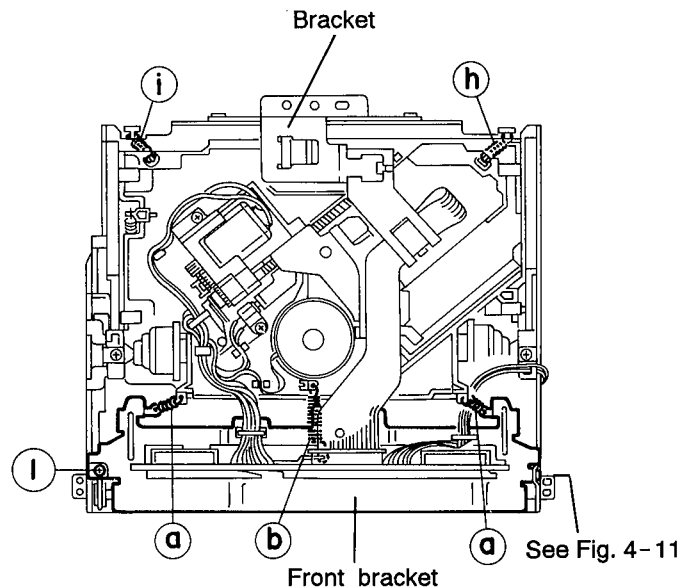
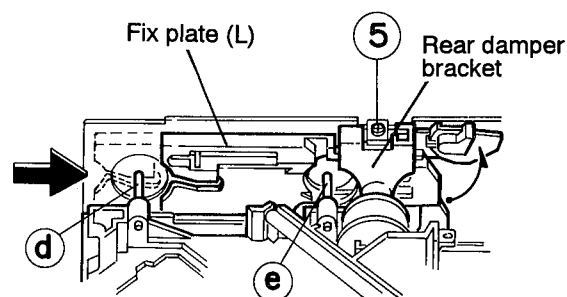

Fig. 4-10
Fig. 4-17
5. Remove the three springs ① and ② from behind the CD mechanism assembly (See Fig. 4-10).
7. Remove the two screws ① retaining the front bracket for fixing the CD mechanism control P. C. board (See Fig. 4-10).
2. While shifting the fix plates on the right and left sides respectively to the arrow direction, lower the entire CD mechanism. When the shafts (㉔, ㉕, ㉖ and ㉗) on both the right and left sides have been set free as shown in Figs. 4-17 and 4-18, then the assembly can be removed easily. Remove the two screws ⑤ retaining the rear damper bracket to make it easier to remove the damper from the rear damper bracket (See Figs. 4-10, 4-17 and 4-18).
3. Remove the two springs ㉘ and ㉙ as shown in Fig. 4-10, 16.